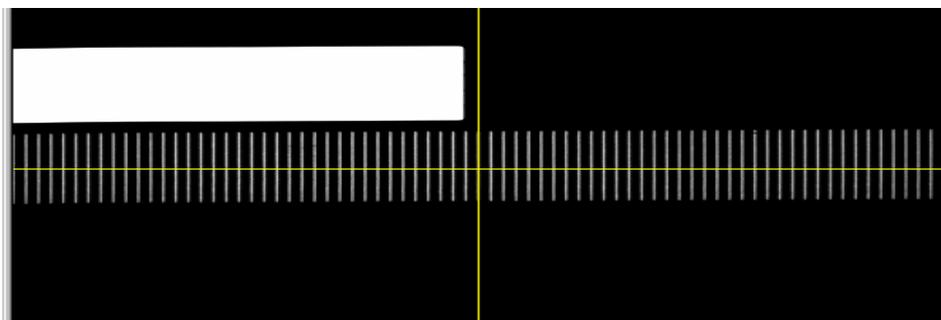

Fig. 4-273 Correct orientation of calibration sample for X scanner calibration
- The calibration standard has to be positioned as indicated in Fig. 4-273.